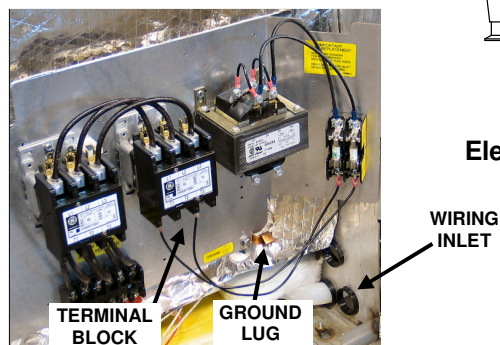

Figure 3-14
7. Refer to the wiring diagrams and Figure 3-14. Connect the wires to the terminal block and ground connector.